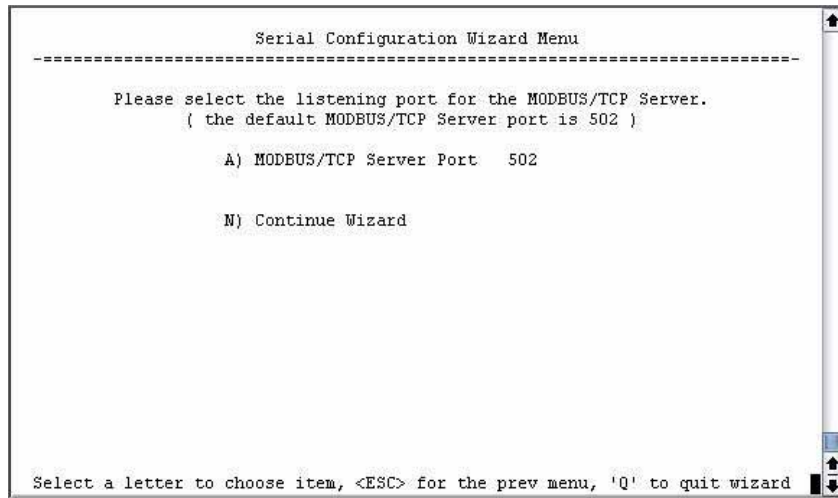

Figure 3-46. Modbus/TCP Server Listening Port
3. On the next screen (Figure 3-46 on Page 82), choose the listening port you wish to use for the Modbus/TCP server. The default is port **502**. Press **N** to continue.